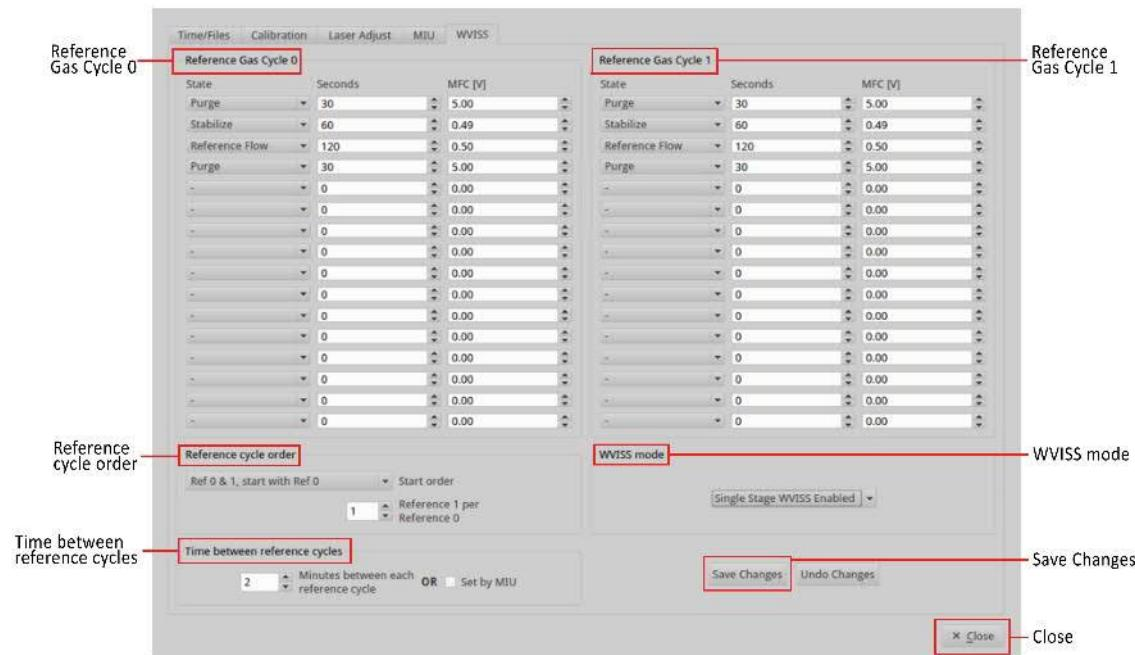

Figure 97: Adjustment Panel for the WVISS operation
3. The *WVISS Control Panel* is displayed. Figure 97 shows the WVISS Control Screen and identifies the panes to make adjustments to the WVISS operation.
10. Click Save Changes. (Figure 97)
11. Click Close to begin the WVISS configured run. (Figure 97)
13. Click Save Changes. (Figure 97)